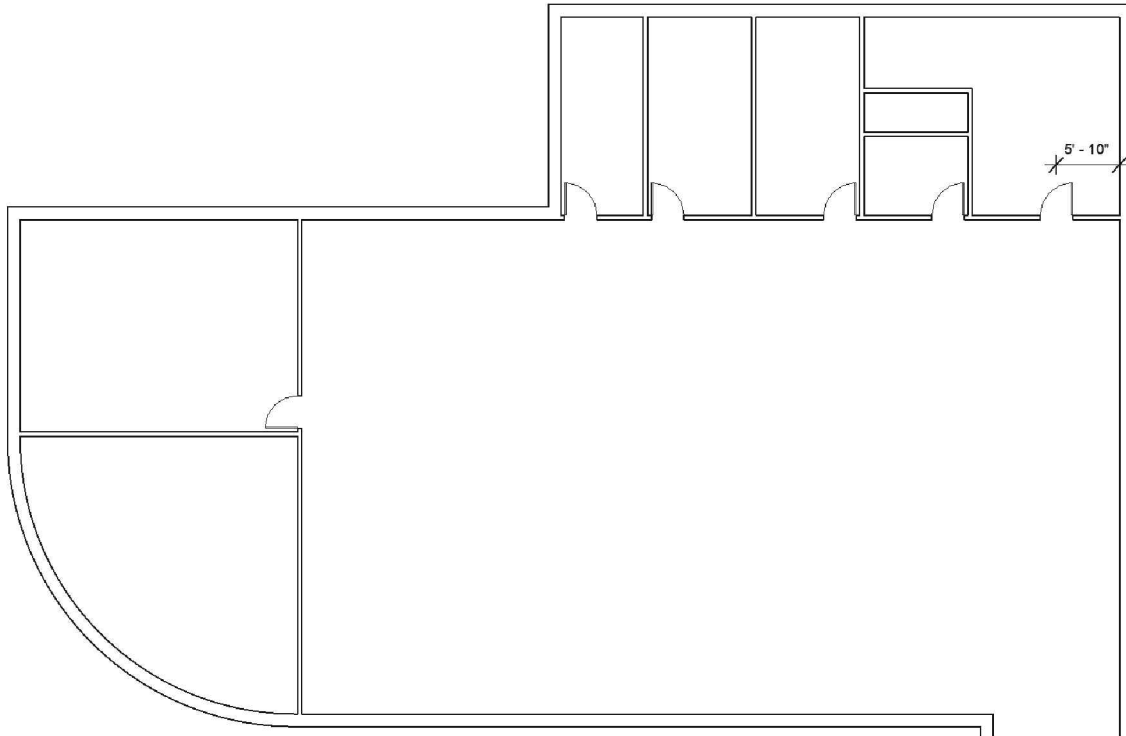

FIGURE 5-4.10 Level 2 doors to be inserted
12. Place the 6 additional doors for Level 2, following the same guidelines as Level 1 (Figure 5-4.10).